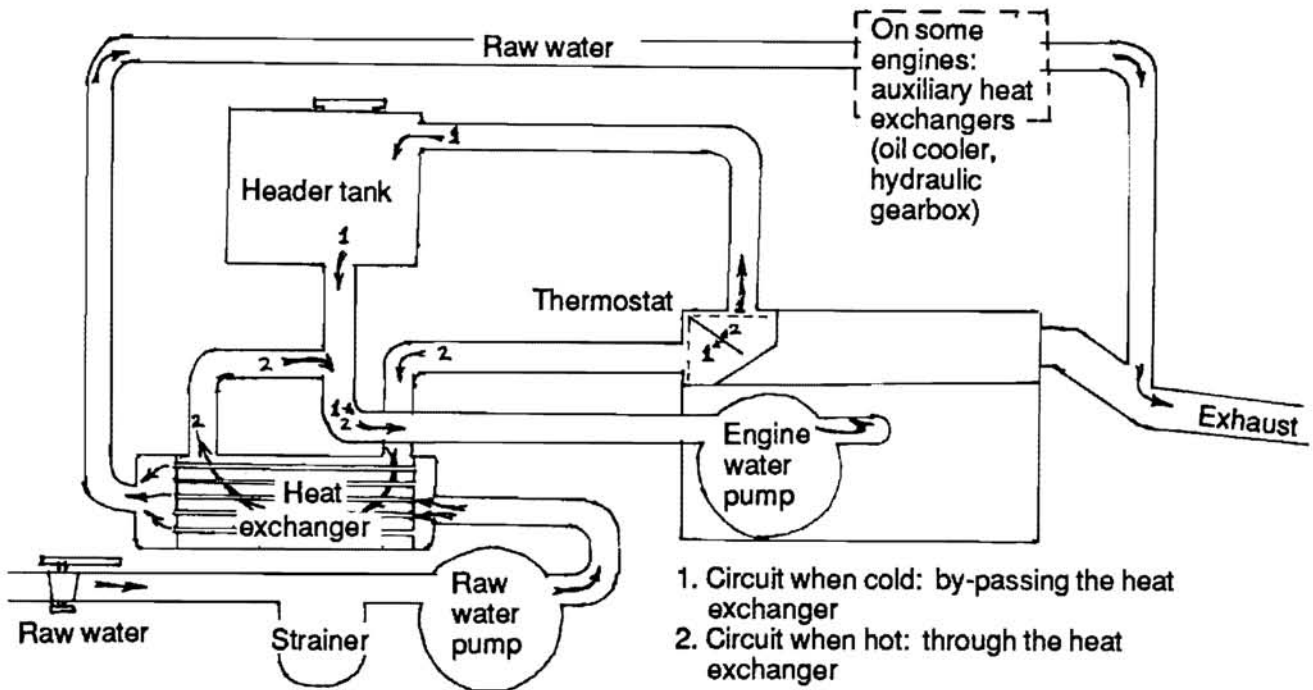

Figure 6-3. *Heat exchanger schematic.*
2. In engines with heat exchangers, the used raw water is sometimes injected into the exhaust system. The effects are as described above for raw-water systems (see Figure 6-3).